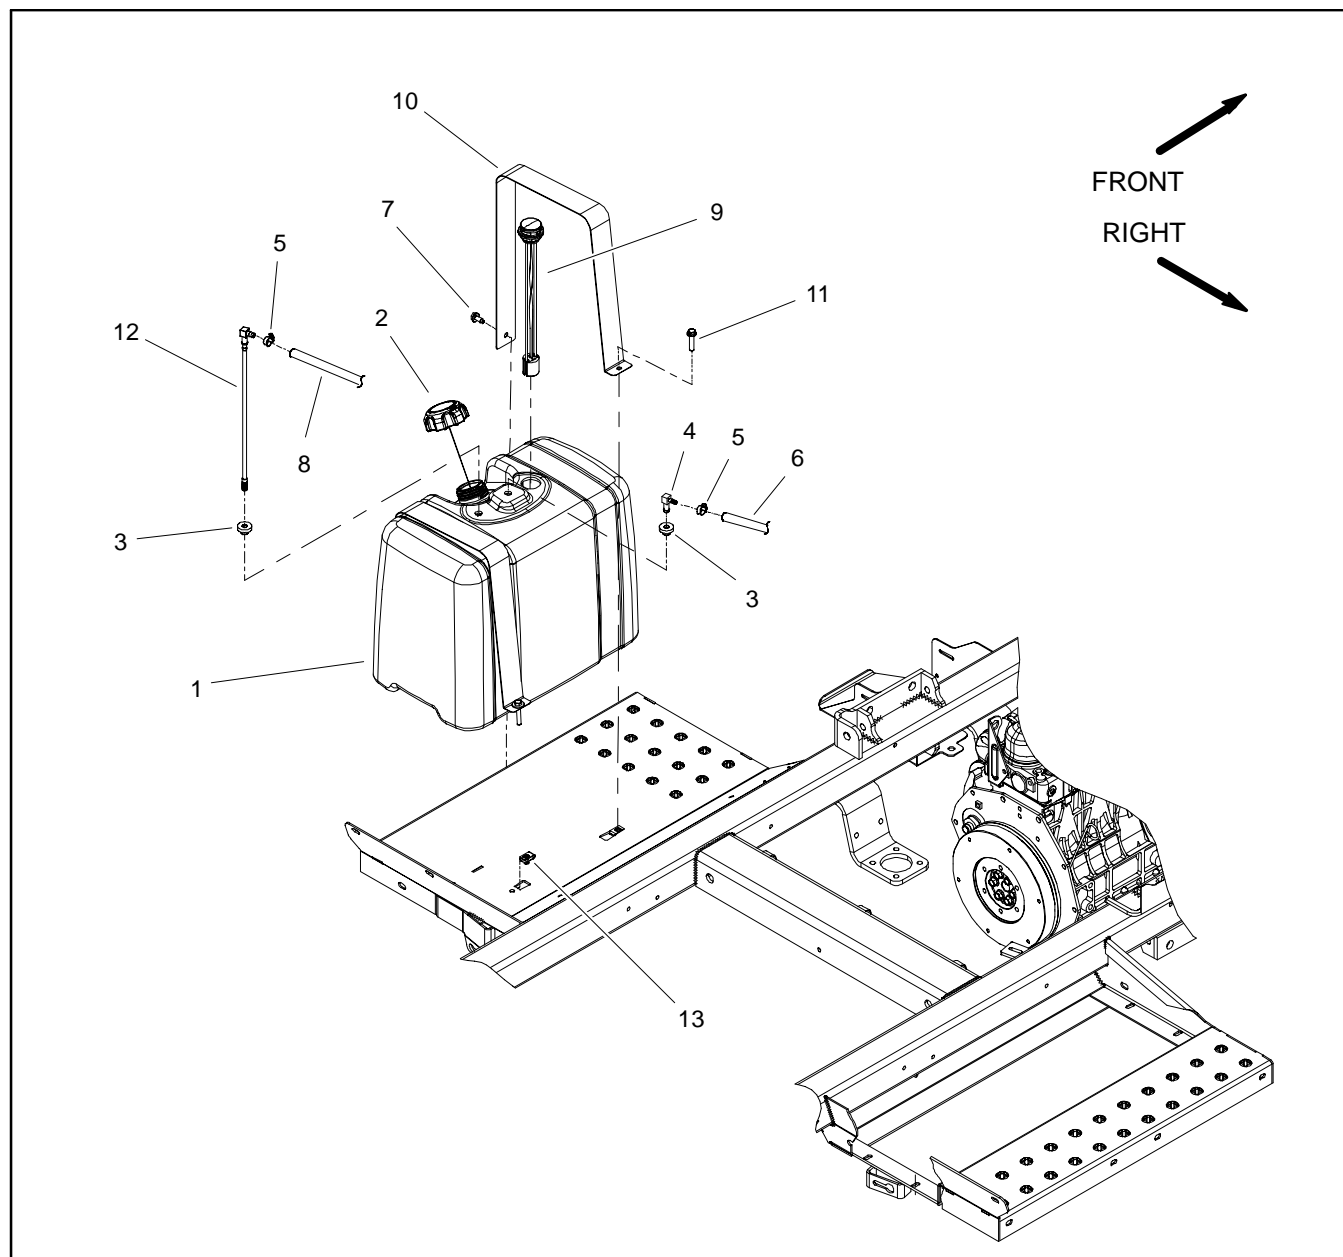

Figure 3
Fuel Tank Removal (Fig. 3)
4. Remove fuel tank from machine using Figure 3 as a guide.
Fuel Tank Installation (Fig. 3)
1. Install fuel tank to machine using Figure 3 as a guide.